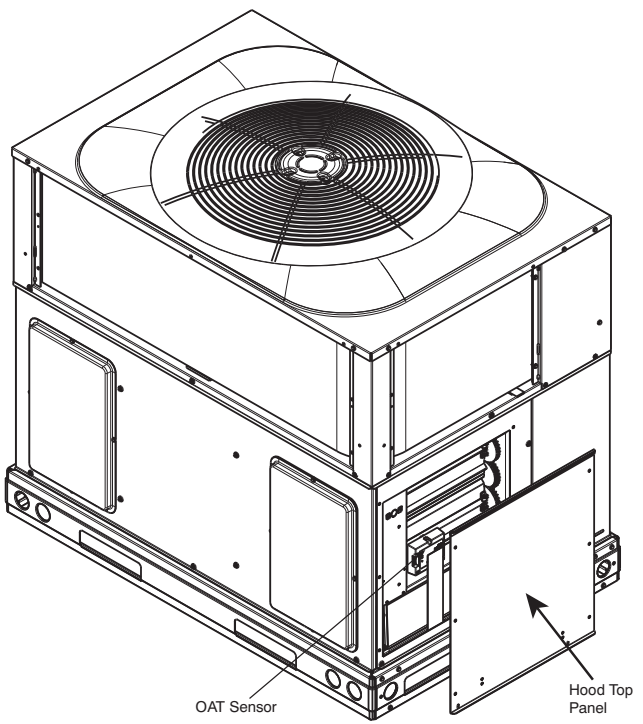

Fig. 1 - Economizer Hood Top Panel Removal
2. Remove economizer hood top panel from the return side of the unit. See Fig. 1. Keep screws and panel next to the unit.